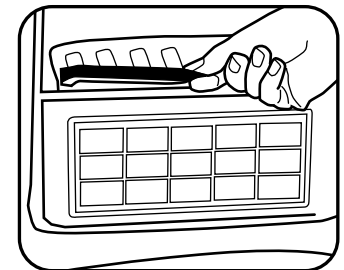

Fig. 1
2. Remove the secondary filter by sliding it out from under the bag supporter (Fig. 1).